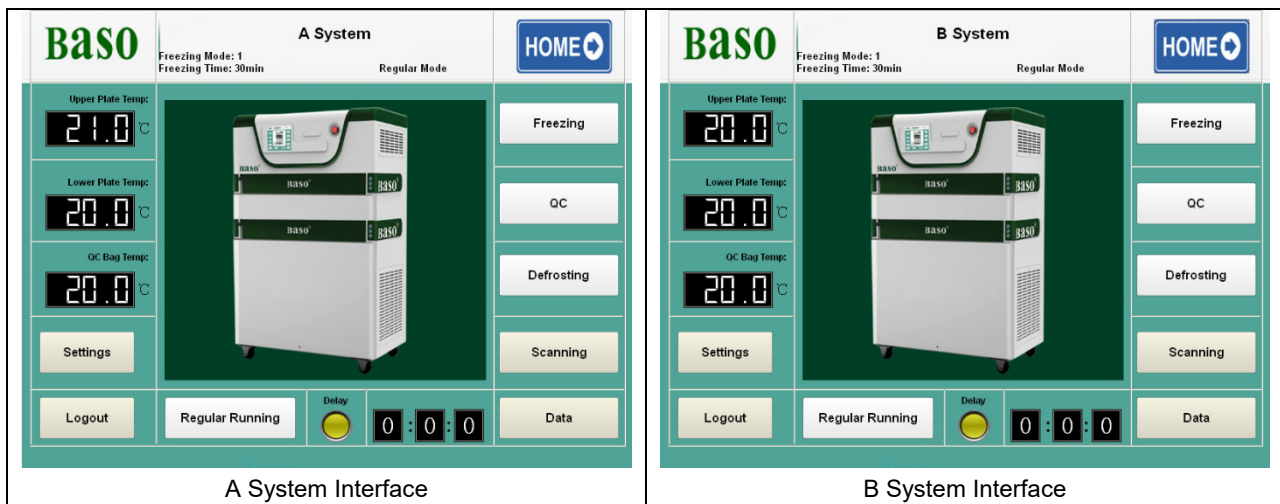

Fig 4.4 A/B System Interface
Step 4: Pre-cooling; keep the freezing chamber of A/B System closed, then click “Freezing” in Fig 4.4 to start. (If the compressor is on and off for less than interval 3min, the delay light will flash). The pre-cooling time is about 15min.